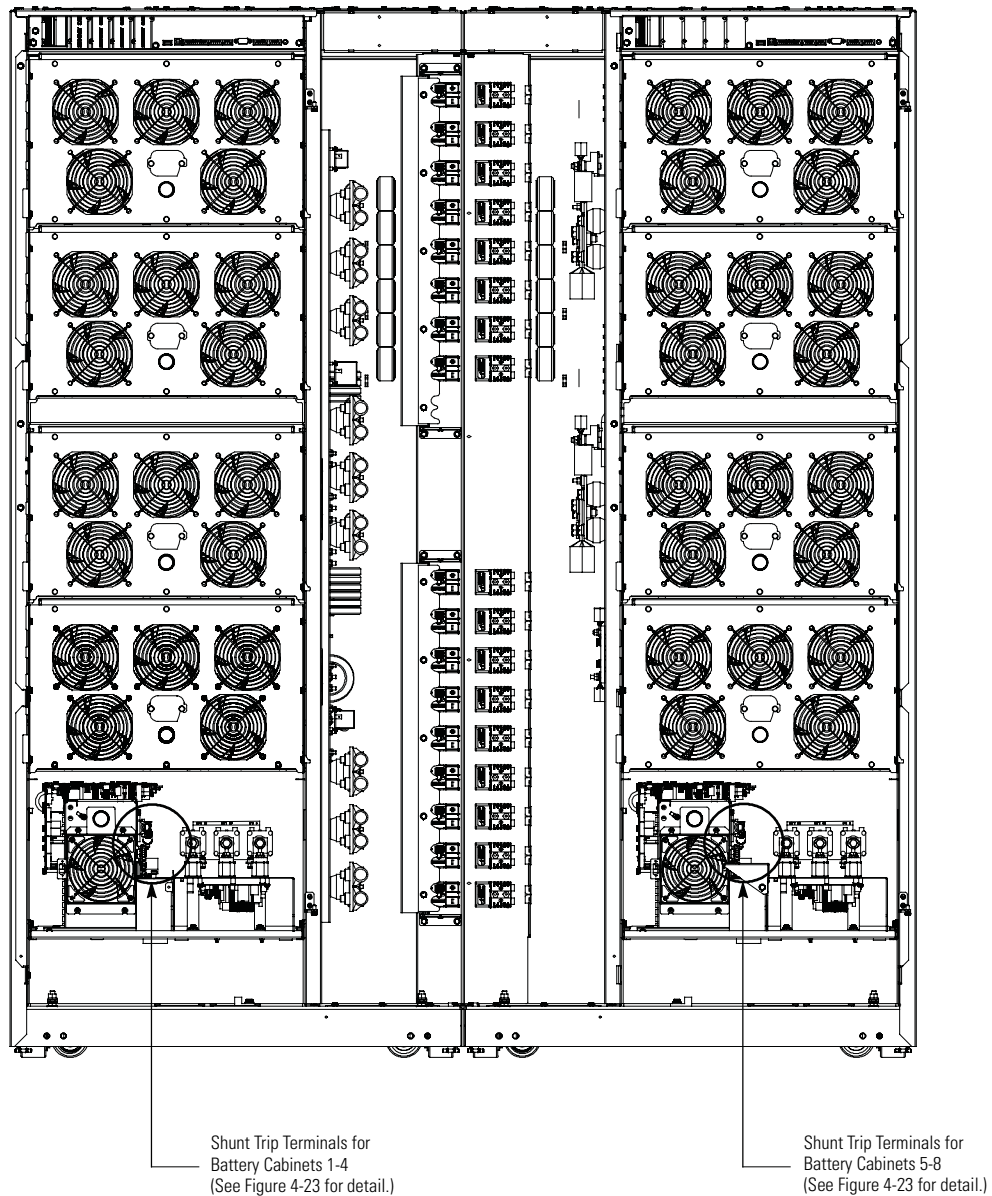
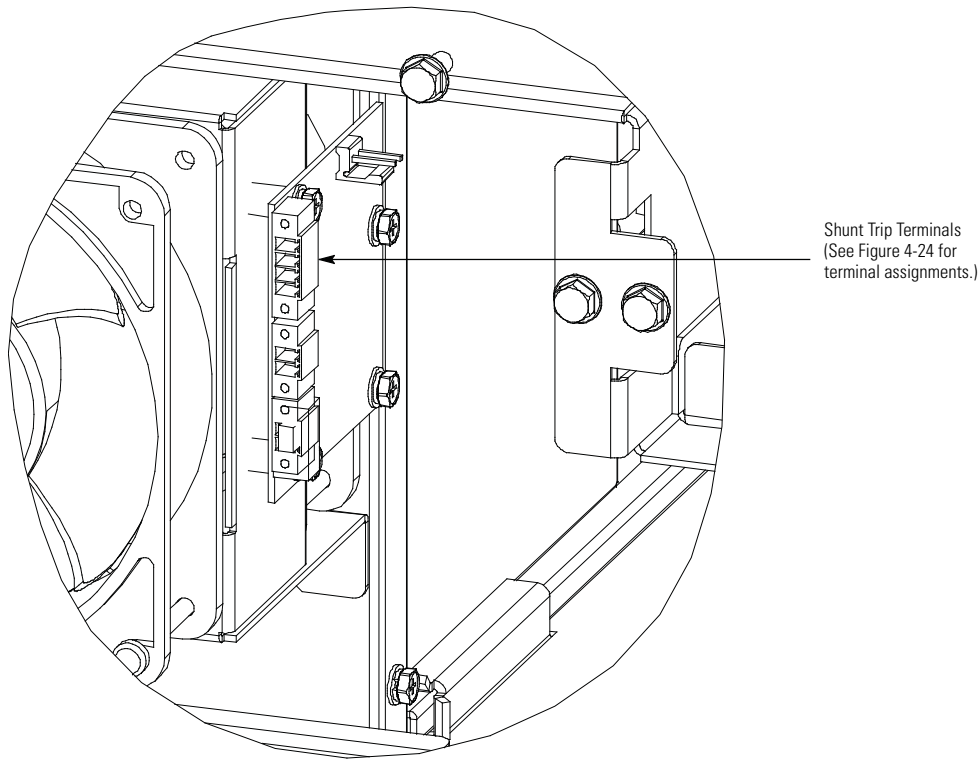

Figure 4-22. Battery Shunt Trip Locations
Figure 4-23. Battery Shunt Trip Terminal Detail
NOTE 3 If one to four battery cabinets are installed, wire battery shunt trip to the left UPS cabinet section (see Figure 4-22). If more than four battery cabinets are used, wire shunt trip for battery cabinets one to four to left UPS cabinet section and shunt trip for battery cabinets five to eight to right UPS cabinet section.
5. **Pass-through Wiring.** Route the battery shunt trip wiring from the battery cabinet through the bottom UPS inter-cabinet wiring access pass-through and static switch shelf bushing to the UPS battery shunt trip terminals. See Figure 4-10 for UPS wiring access information, and Figure 4-22 and Figure 4-23 for UPS terminal locations. Refer to the *Eaton 93PM Integrated Battery Cabinet Installation Manual – Large and Large High Rate* or the *Eaton 93PM Universal Integrated Battery Cabinet Installation Manual-Large and Large High Rate*, listed in paragraph 1.8, for battery cabinet wiring access information and instructions.
7. **Bottom Entry Wiring.** Route the battery shunt trip wiring from the battery cabinet or battery disconnect through the bottom of the UPS and static switch shelf bushing to the UPS battery shunt trip terminals. See Figure 4-9 for UPS wiring access information, and Figure 4-22 and Figure 4-23 for UPS terminal locations. Refer to the *Eaton 93PM Integrated Battery Cabinet Installation Manual – Large and Large High Rate* or the *Eaton 93PM Universal Integrated Battery Cabinet Installation Manual-Large and Large High Rate*, listed in paragraph 1.8, for battery cabinet wiring access information and instructions.
9. **Top Entry Wiring.** Route the battery shunt trip wiring from the battery cabinet or battery disconnect through the top of the UPS cabinet and the bottom UPS internal inter-cabinet wiring access pass-through and static switch shelf bushing to the UPS battery shunt trip terminals. See Figure 4-9 for UPS wiring access information, and Figure 4-22 and Figure 4-23 for UPS terminal locations. Refer to the *Eaton 93PM Integrated Battery Cabinet Installation Manual – Large and Large High Rate* or the *Eaton 93PM Universal Integrated Battery Cabinet Installation Manual-Large and Large High Rate*, listed in paragraph 1.8, for battery cabinet wiring access information and instructions.